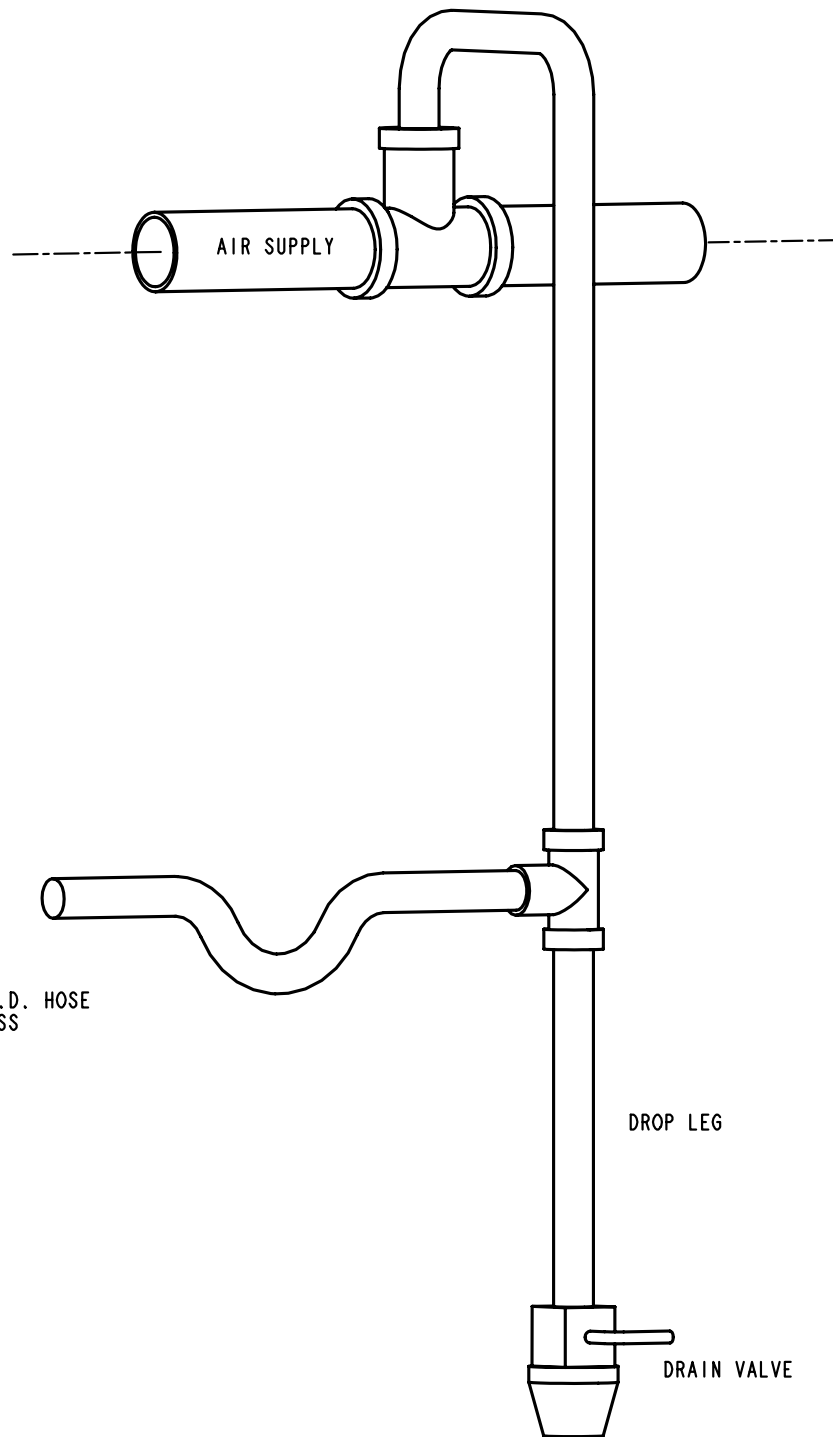

FIGURE 1.0
- **Piping Installation** – Proper piping hookup will help achieve the above requirements. See figure 1-0 on the next page.